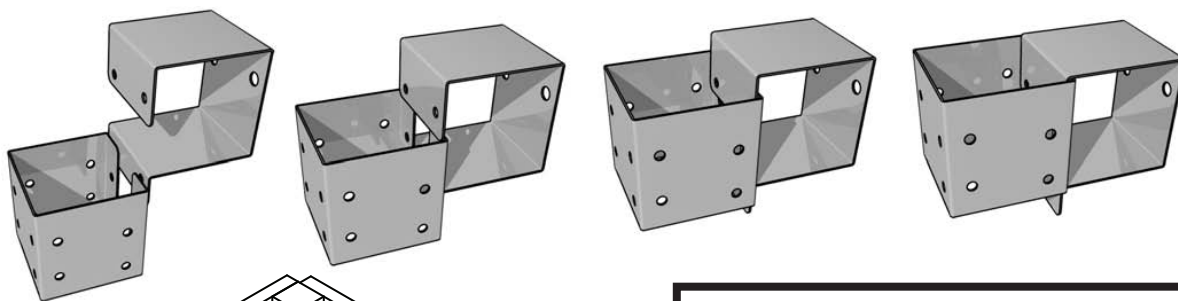
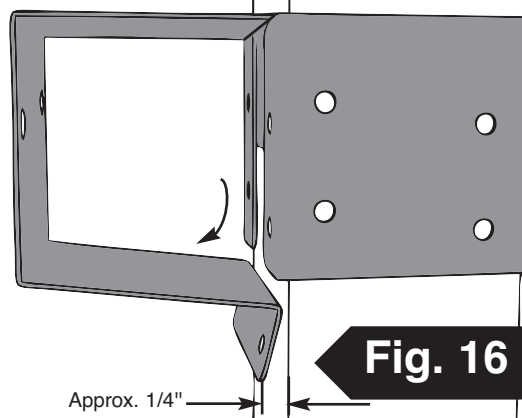

Fig. 15
Fig. 16
1. Secure Shelf-Loc brackets onto Wrap-Loc as shown in (Fig. 15), (Fig. 15a), (Fig. 16).